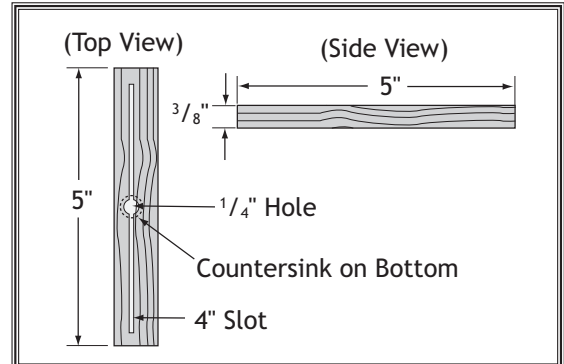

Figure 72. Miter bar pattern.
5. Cut a miter bar that will fit in the table miter slot approximately 5" long, as shown in **Figure 72**.